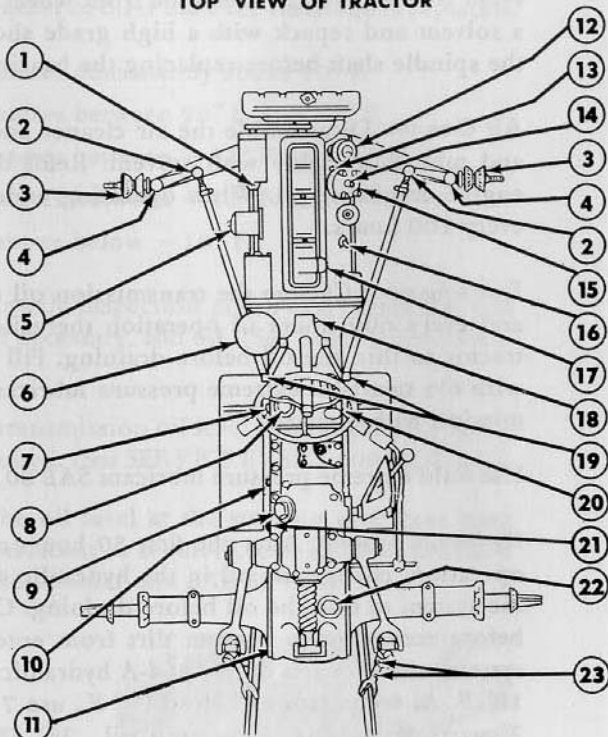

Figure 23
The location of the lubrication points described in the lubrication guide are shown in Figures 23 and 24 on pages 32 and 33.
Pressure Type Fittings: Clean the fittings on the Lift Rod Leveling Box and Fork, Front Axle Spindles, Clutch Pedal and Steering Drag Links. Apply pressure gun grease and wipe the fittings clean. See Figure 23.
Rear Axle: Remove the rear axle inspection plug (11), Figure 23, and check the level of the oil. If necessary, add oil. (See SERVICE EVERY 600 HOURS.)
Remove the transmission oil level inspection plug (20), Figure 23, and add oil, if required. (See SERVICE EVERY 600 HOURS.)
Steering Housing: Check the oil level at the steering gear case plug (18), Figure 23, and add lubricant as required. Use extreme pressure gear lubricant SAE 90 in the summer and SAE 80 in the winter.